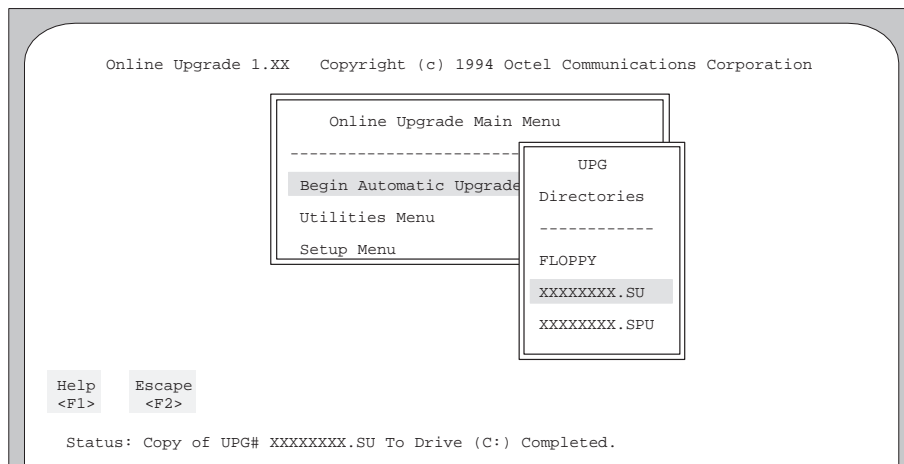

Figure 13-13. UPG Directories Menu.
1. At the Online Upgrade Main Menu, select the Begin Automatic Upgrade option, then press **Enter** to display the names of previously loaded software and phrase diskette groups, in the UPG Directories menu, as shown in Figure 13-13.